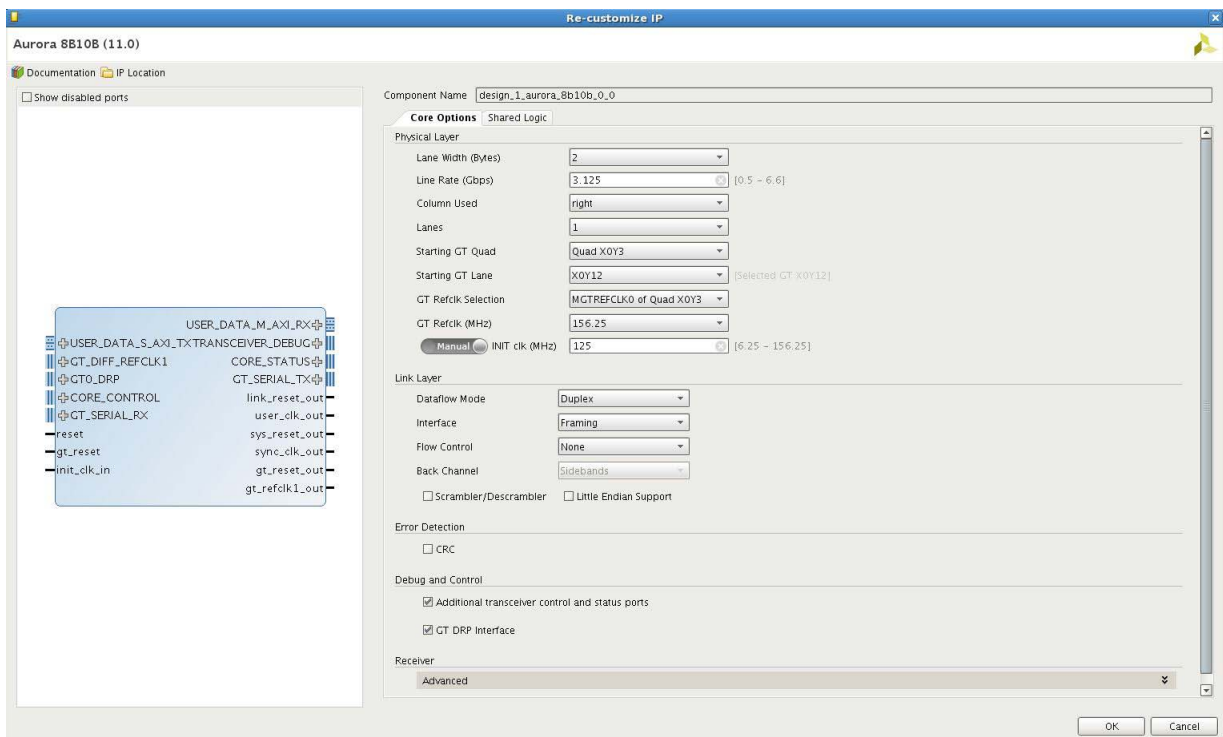

Figure 5-4: Core Options
- Re-customize the aurora core and use the **Core Options** tab to configure it for one channel using the parameters shown in Figure 5-4.